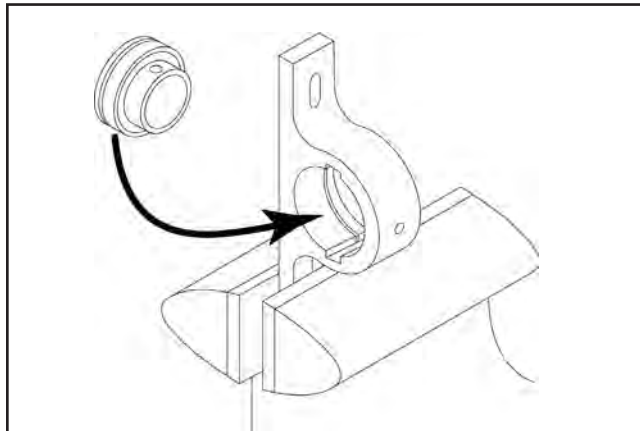
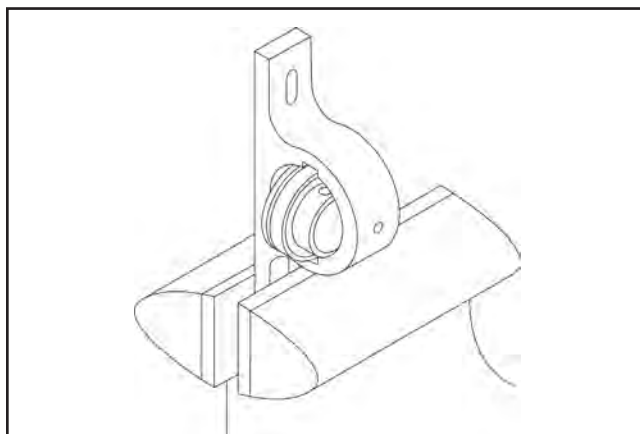

Figure 48. Matching bearing tab to notch.
Figure 49. Inserting bearing into housing.
4. Once old bearing is removed, clean bearing housing. Insert new bearing into notches in the housing (see **Figure 48**). After it reaches into housing as far as it will go, twist the bearing clockwise 90° (see **Figure 49**).